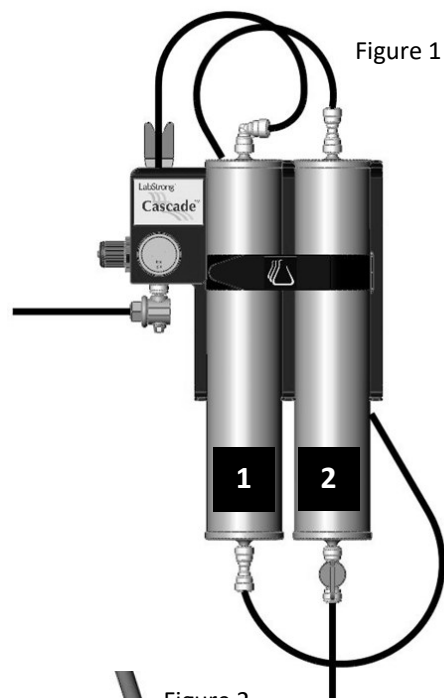

Figure 1
2. Place cartridges in Cascade holder in the order identified in the chart below and as shown in figure 1
2. Begin placing cartridges in Cascade holder in the order identified in the chart below and as shown in Figure 1